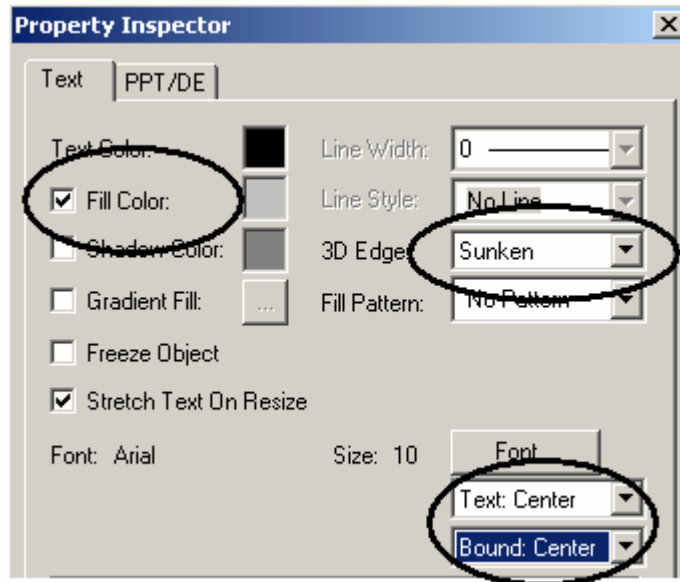

Figure 5.9. Text Tab Properties
- To adjust how this live data appears, click the **Text** tab at the top of the **Property Inspector** dialog. Make the text centered, with a **Sunken Frame**, and a fill color of **Gray**, as shown in **Figure 5.9**. Then click **OK**.